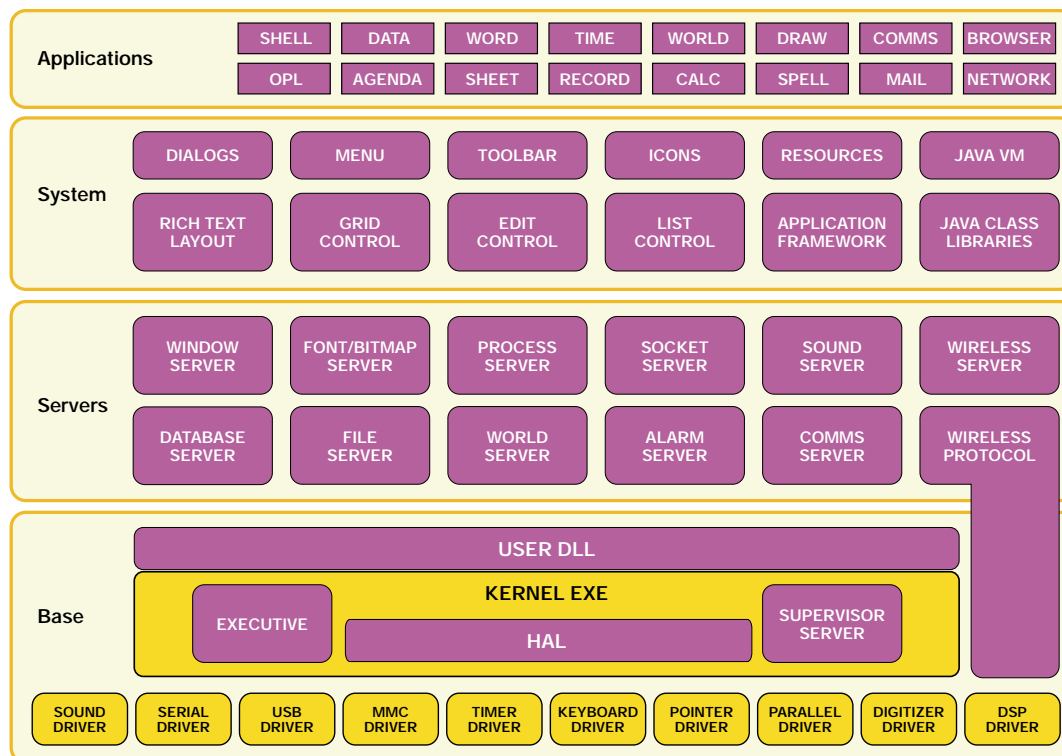

Figure 1. Symbian OS Client-Server Architecture
To address this challenge, Intel is working closely with industry groups that are promoting standards for richer functionality such as process description, negotiations, and transaction support. Such groups also are working on a convergence of standards. With this convergence, the best aspects of diverse and potentially conflicting standards will be brought together in a manageable, complementary, and non-overlapping set (see Figure 1). Intel is also working toward ensuring that the software implementations of these standards will take advantage of Intel® Architecture platform capabilities in the areas of quality of service, security, and encoding to name a few.
Figure 1. Process coordination technology (PCT) standards are a key part of industry efforts to further automate B2B transactions. In each "solution stack" the higher layers build on the functionality of the lower layers.
- *Client-server architecture*—object-oriented design as shown in Figure 1